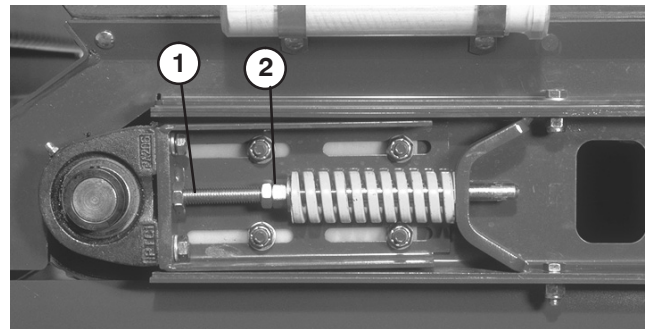

Figure 25
3. Loosen jam nuts and nuts on tension rod to release spring tension (Fig. 25).